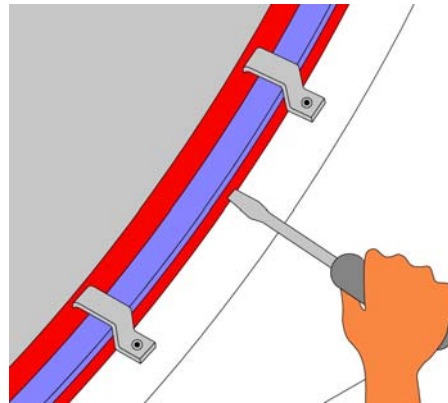

Figure 23
- The circumferential seals are held by spring clamps are further secured by an additional spring steel sheet. The rubber seal is pushed gently up against the rotor with a screwdriver (Figure 23). The circumferential seal is pushed back slightly by the rotating rotor, thereby bringing it into optimal operational position.